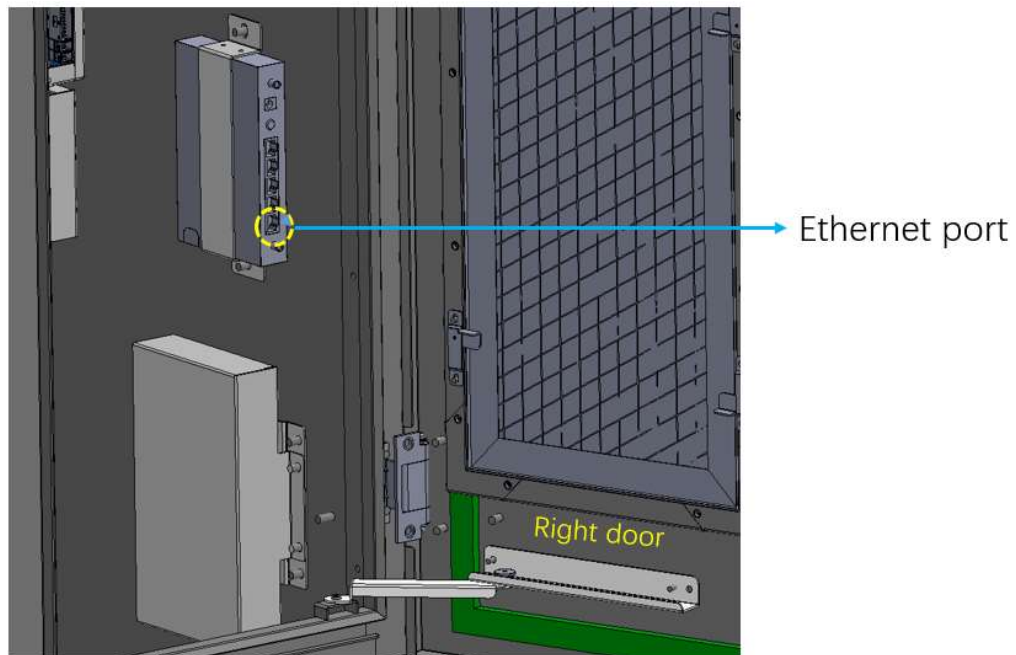

Figure 11 Ethernet port diagram
(3) If the Ethernet communication is required, put the network cable go through the bottom of the charger, and connect it to the Ethernet port. The location of the Ethernet port is shown in Figure 11.